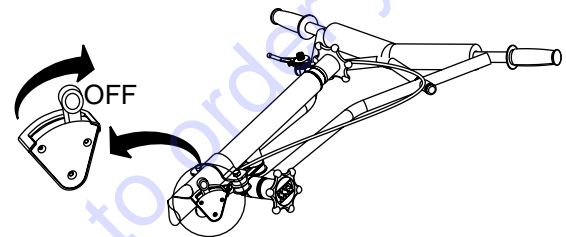

**Figure 25. Choke Lever Closed**
7. If the engine has started, slowly return the choke lever (Figure 25), cold start only to the **CLOSED** position. If the engine has not started repeat steps 1 through 6.